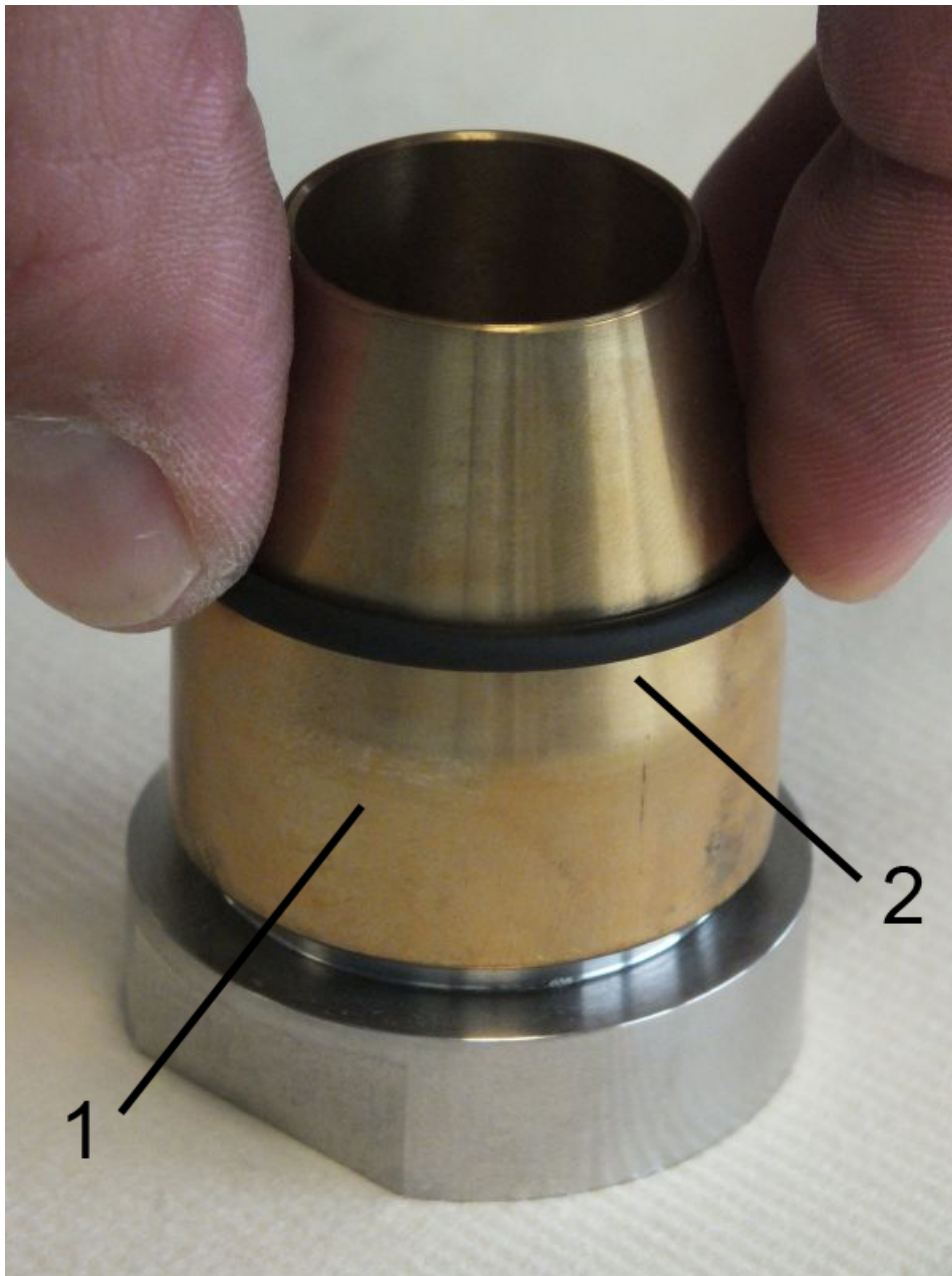

Fig. 48: O-ring (seal)
- 1.** ➤ Carefully install the O-rings (*Fig. 48/2*) with the aid of the O-ring installation tool (*Fig. 48/1*) onto the process connections (inlet and outlet), so that they are properly seated in the O-ring grooves of the process connection (*Fig. 48/1*). When doing so, be careful not to overstretch the O-rings